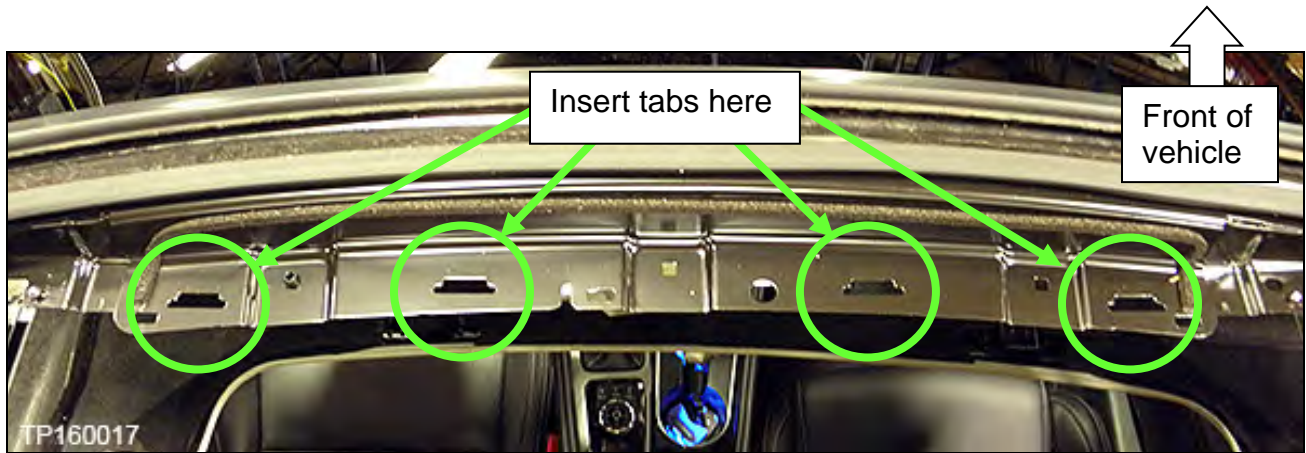

Figure 22
4. Insert the four tabs of the wind deflector into the moonroof frame (Figure 22).